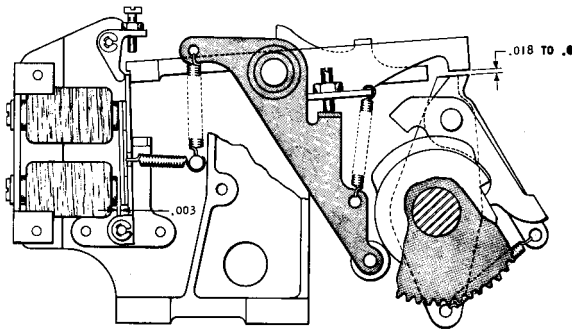

Figure 29. Clutch Unlatching Clearance
2. Turn the machine to the low dwell on the clutch cam. Trip the clutch and set the adjusting screw for  $.018''$  to  $.030''$  unlatching clearance (Figure 29).